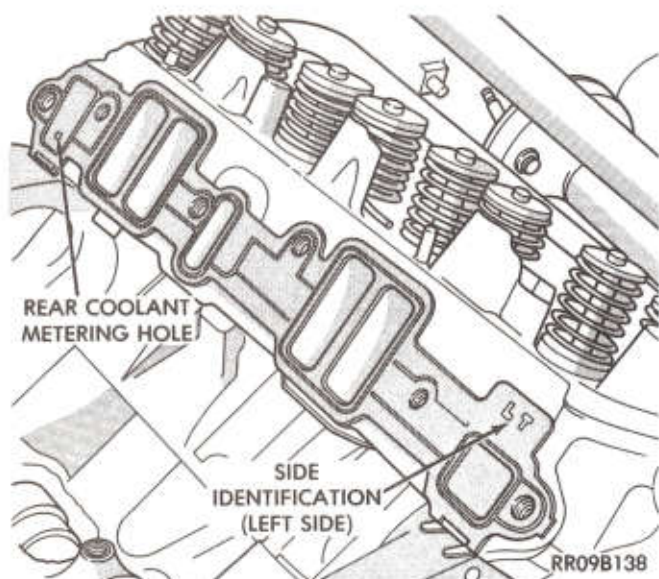

Fig. 9—318 Engine Intake Manifold Side Gaskets—Left Side Shown
The 318 engine intake manifold is water cooled and requires "Right" and "Left" side gaskets. These steel embossed gaskets while providing conventional sealing also provide metered coolant flow. Cutouts at top front of each gasket (LT for left side and RT for right side) identified each gasket position (Fig. 9). The 360 engine intake manifold gaskets are composition material.
- (9) Install side gaskets to cylinder head.
- (10) Clean cylinder block front and rear gasket surfaces using a suitable solvent (Fig. 9).
- (11) Apply a thin, uniform coating of a quick dry cement to the intake manifold front and rear gaskets and cylinder block gasket surface. Allow to dry 4 to 5 minutes or until tack free.